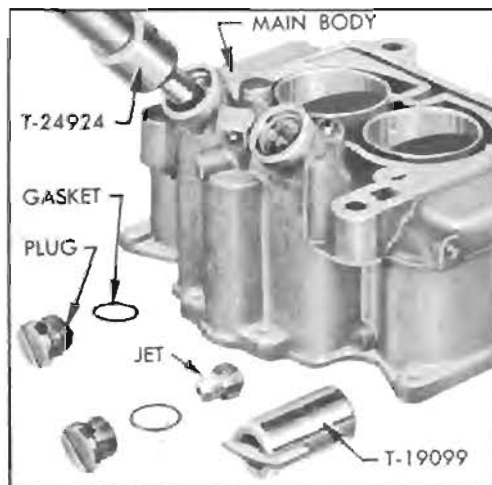

Figure 3-63—Removing Plug and Main Metering Jet
13. Remove main discharge jet plugs using Screw Driver T-19099, remove copper gaskets, then remove main metering jets using Jet Socket T-24924. See figure 3-63.
8. Install main metering jets, using Jet Socket T-24924. Install main discharge jet plugs, using new copper plug gaskets if available; otherwise make sure that plugs and seats are clean to insure tight joint. Tighten plugs with screw driver T-19099. See figure 3-63.